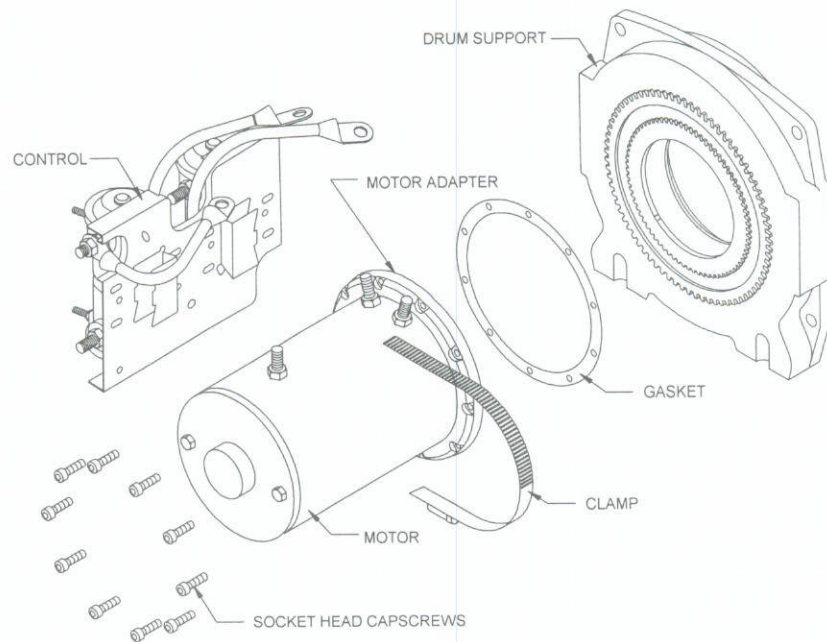

Figure 2.11
6. Loosen two clamps (some winches have only one clamp) and remove control from motor (*Figure 2.11*).
9. Secure motor to motor end drum support with ten hex socket head screws. Tighten socket head screws to 30-40 lb.-in. (*Figure 2.11*).
10. Install two clamps on motor (*Figure 2.11*).